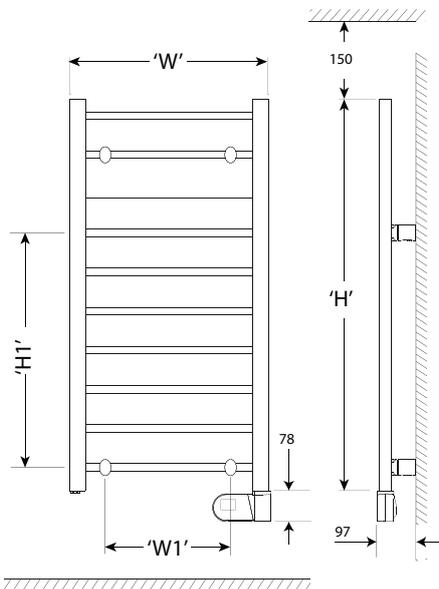

Fig. 1
See Fig.1. All dimensions are in mm.
1. Mark suitable mounting hole positions for the fixing brackets (ensuring they are horizontal) - see Fig.1 (Dim W1 & H1), ensure to allow enough room above and below to maintain the minimum clearance stated in Fig. 1.